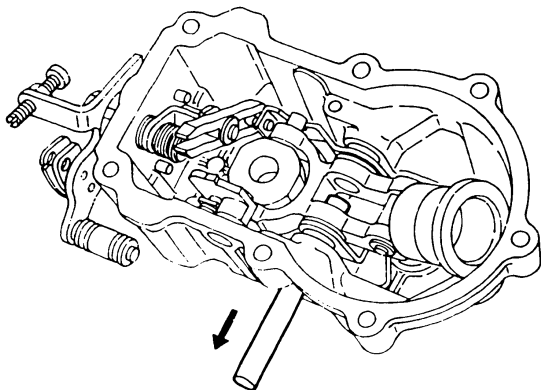

Fig. 89 Pulling out the shaft
38. Pull out the shaft (35/2). (Fig. 89)